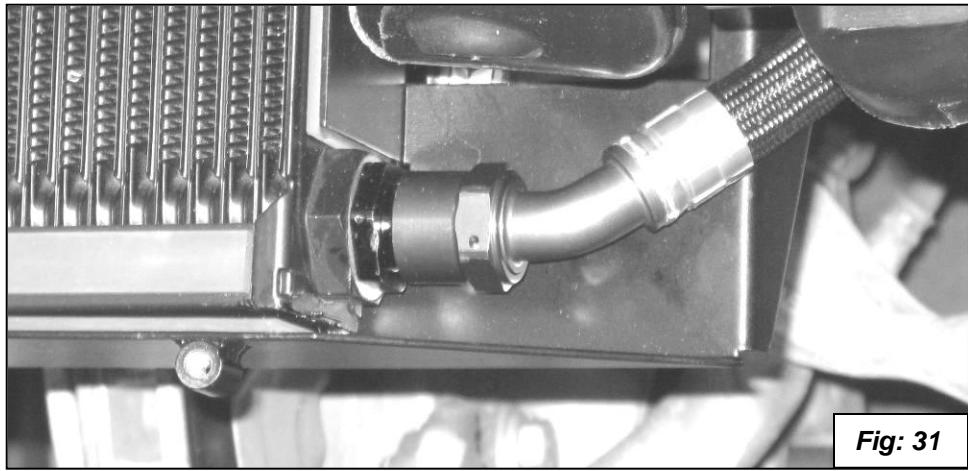

Fig: 31
36. Connect the **non-swivel** end of the Lower Oil Line to the lower fitting on the Oil Cooler after routing the Line under the Upper Line as shown in **figure 31**. **Always start this type of fitting by hand for several turns before using a wrench to avoid cross-threading the aluminum threads.**